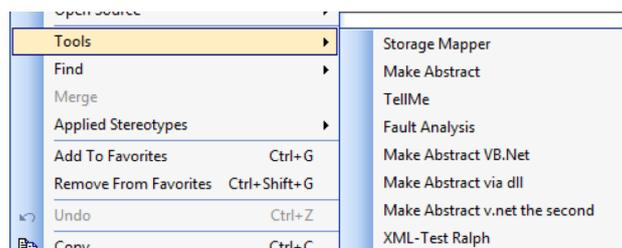

Figure 19: Context menu for *Fault Analysis Model* with Fault Analysis tool option.
3. Right click and select “Tools” → “Fault Analysis” (this may differ depending on the name supplied when setting up the tool), as shown in Figure 19.